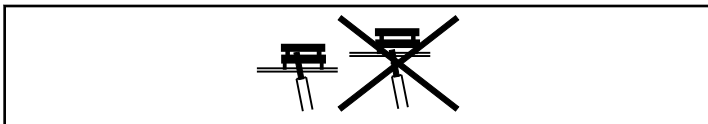

Figure 6
4. Take the EPROM-Flash memory out of the IC-holder and replace it with a new one. Make sure to put the screwdriver between the component and the socket. Refer to *Figure 6*